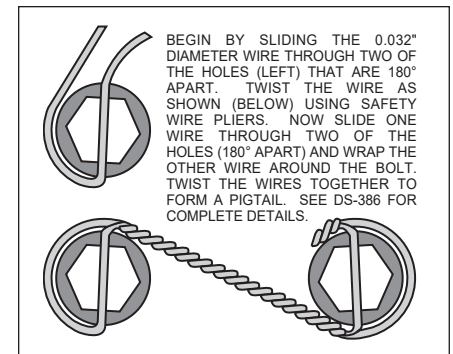

Figure 3. Safety Wire Diagram
- With the larger I.D. side of the rotor (6) facing away from the hat (7), bolt rotor (6) to the hat (7) through the backside of the rotor using washers (8) and bolts (9). Using an alternating sequence, apply red *Loctite*® 271 to the threads and torque bolts to 155 **in-lb**. For an added measure of security, the bolts may be safety wired using standard 0.032 inch diameter stainless steel safety wire as shown in Figure 3. Please refer to Wilwood's data sheet DS-386 (available at [www.wilwood.com/Pdf/DataSheets/ds386.pdf](http://www.wilwood.com/Pdf/DataSheets/ds386.pdf)) for complete safety wire installation instructions.
- Install washer (14) over each pre-installed stud (13) on the radial mount bracket (1). Slide the caliper (10) in place over the studs and rotor, then install the washer (12) and lock nut (11) to hold the caliper in place. The caliper bleed screws should be pointing up. Snug the lock nuts (11) and check that the rotor (6) is centered in the caliper (10). Add or subtract .029" shims (3) as necessary between the caliper mounting bracket (1) and the spindle to center the caliper (10).
- Remove the caliper center bridge pad retainer bolt, nut, and tube from the caliper. Slide the brake pads (15) into place. They should install easily without interference. Check that the outside radius of the brake pad is aligned with the outside diameter radius of the rotor face. Add or subtract shims (14) between the caliper (10) and mount bracket (1) to gain the proper alignment. Reinstall the center bridge pad retainer tube, bolt, and lock nut. The lock nut should be snug without play in the bolt or tube. Be cautious not to over tighten.
- Once all clearances have been checked, remove the wheel, caliper, hat, and rotor from the spindle and hub. Secure the caliper mounting bracket (1) to the spindle with bolt (2), washers (3), lock washer (4) and nut (5) as done previously using red *Loctite*® 271. Torque bolt (2) to 75 ft-lb. Reinstall the hat and rotor assembly and again using two lug nuts (finger tighten) to hold it in place. Lubricate caliper mounting studs and nuts with lightweight oil, reinstall the caliper, torque the caliper nuts (11) to 30 ft-lb.